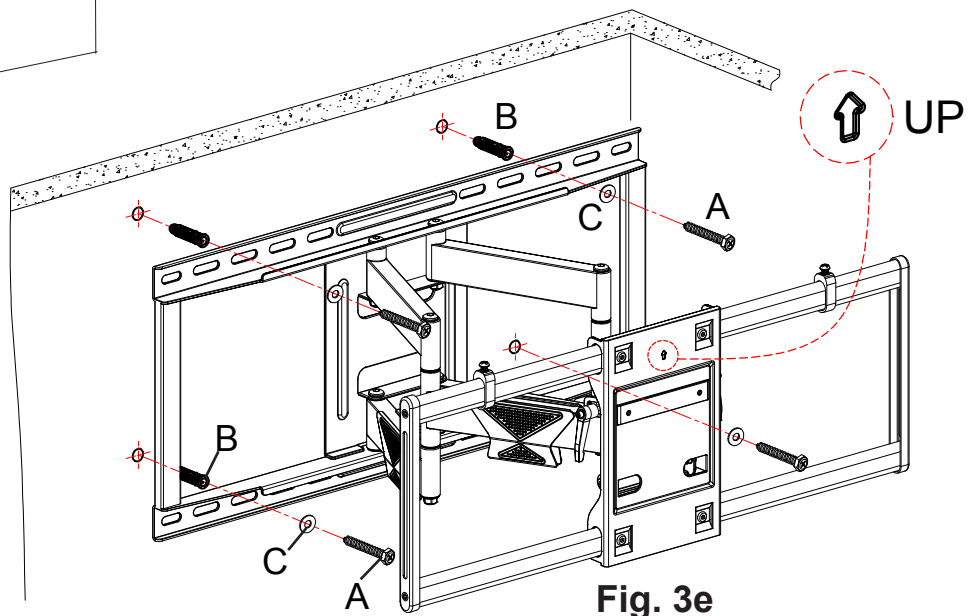

Fig. 3e
3. Insert a wall anchor (B) into each pre-drilled hole and lightly tap it with a hammer until the wall anchor is flush with the wall.
4. Use a wrench, the four long bolts (A) and washers (C) to attach the wall mount to the wall with the wall anchors (Fig. 3e).